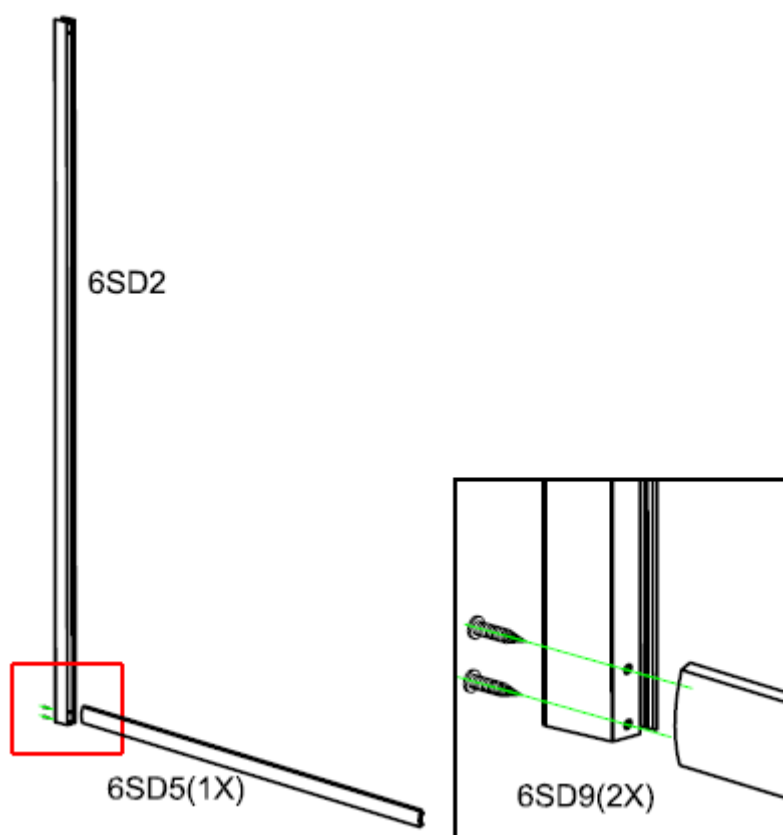

Figure 4
4. Connect the fixed profile(6SD2) to the rail profile(6SD5) vertically by using the screw(6SD9),as showed in figure 4.